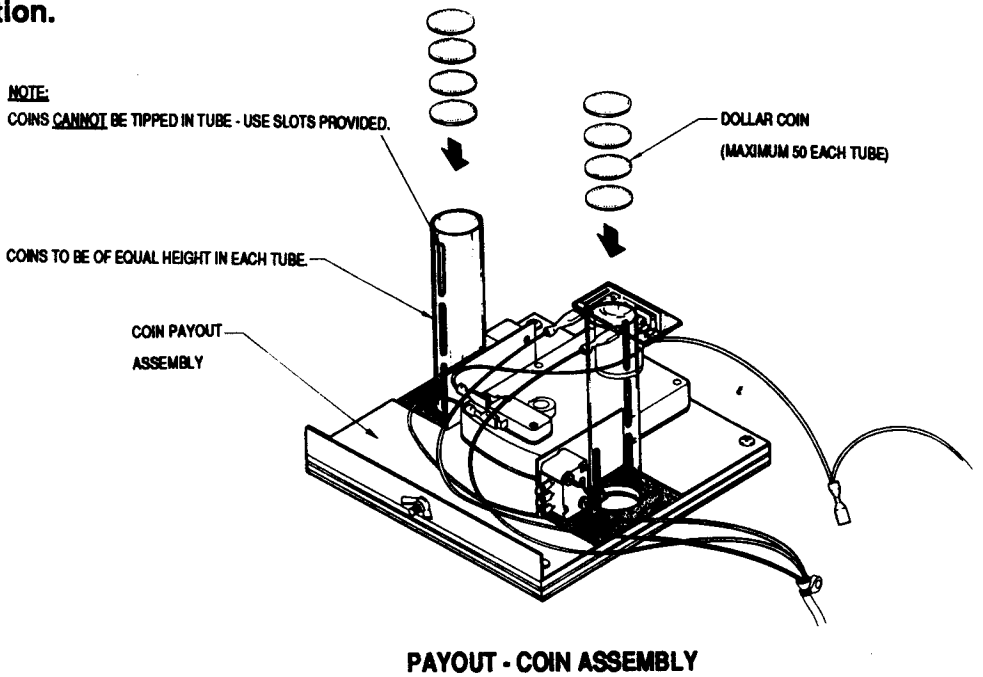

Figure 20
8. Fill change tubes with Susan B. Anthony Dollar Coins (see fig. 20) if unit is equipped with change-making option.